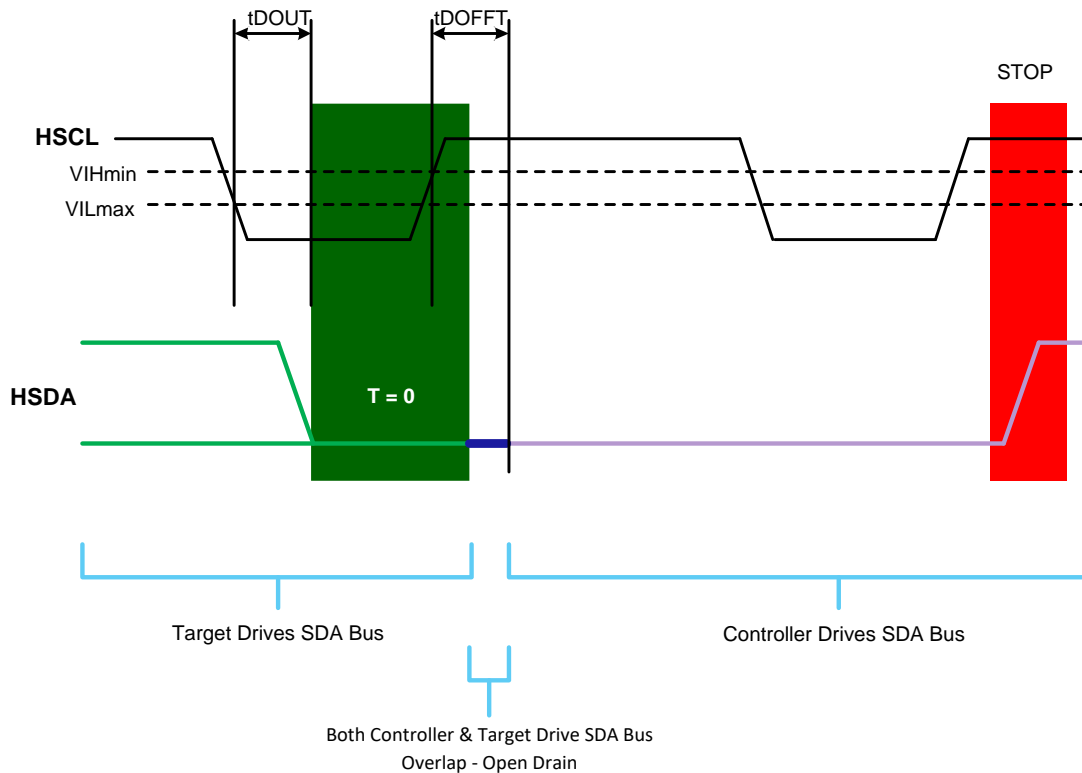

Figure 12. T = 0; Target Ends Read; Host Generates STOP
6. See Figure 12 to see how Target device ends the operation followed by Host STOP operation.